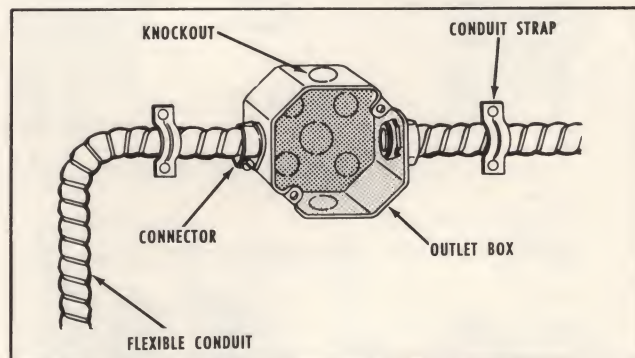

FIG. 45—FLEXIBLE CONDUIT INSTALLATION
**FLEXIBLE CONDUIT WIRING SYSTEM.** Generally called "Greenfield," flexible conduit is similar in appearance to the protective steel casing of armored cable, but larger in diameter to permit wires to be pulled through. (See Fig. 7.) Although not universally used for general household wiring, Greenfield is an excellent material for jobs where flexibility is required or, where other conduit would not be suitable. For example, the concealment of either rigid conduit or thin-wall conduit in a finished frame partition would require the removal of a considerable amount of lath and plaster. Greenfield conduit can be easily inserted through a small hole. Often, the only openings required will be those used later for the outlet boxes. Where used for house wiring, Greenfield is installed and used like armored cable, except that wires, as with other kinds of conduit, are pulled through later. (See Fig. 45.)